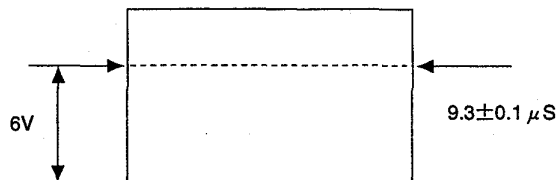

Fig.5-3
4. Observe the anode of TP300 or D516 with an oscilloscope, and adjust **H-BLANKING** so that the waveform will be as shown in Fig.5-3.